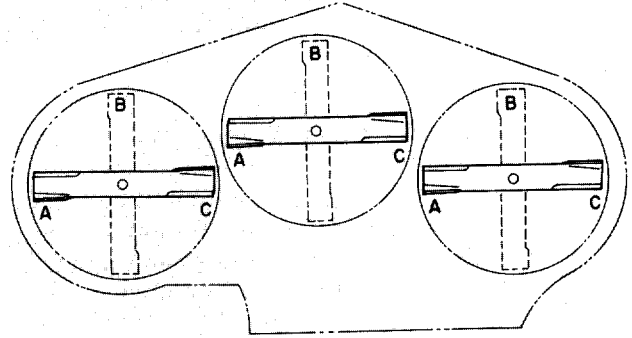
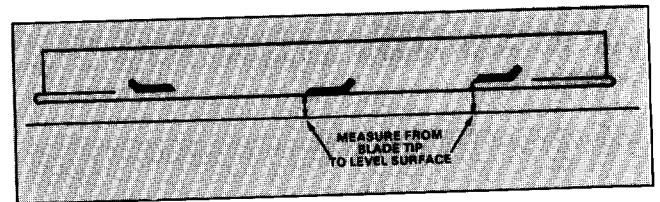

Figure 14
Figure 15
4. Position outside blades in the "A" position (Fig. 14) and measure from level surface to the bottom of the tip end of each blade (Fig. 15).
5. Note measurement attained at "A", rotate blades to "B" position (Fig. 14), measure distance of all blades to level surface and note dimensions (Fig. 15).
6. Rotate blades to "C" position, measure and note distance measures (Fig. 14, 15).